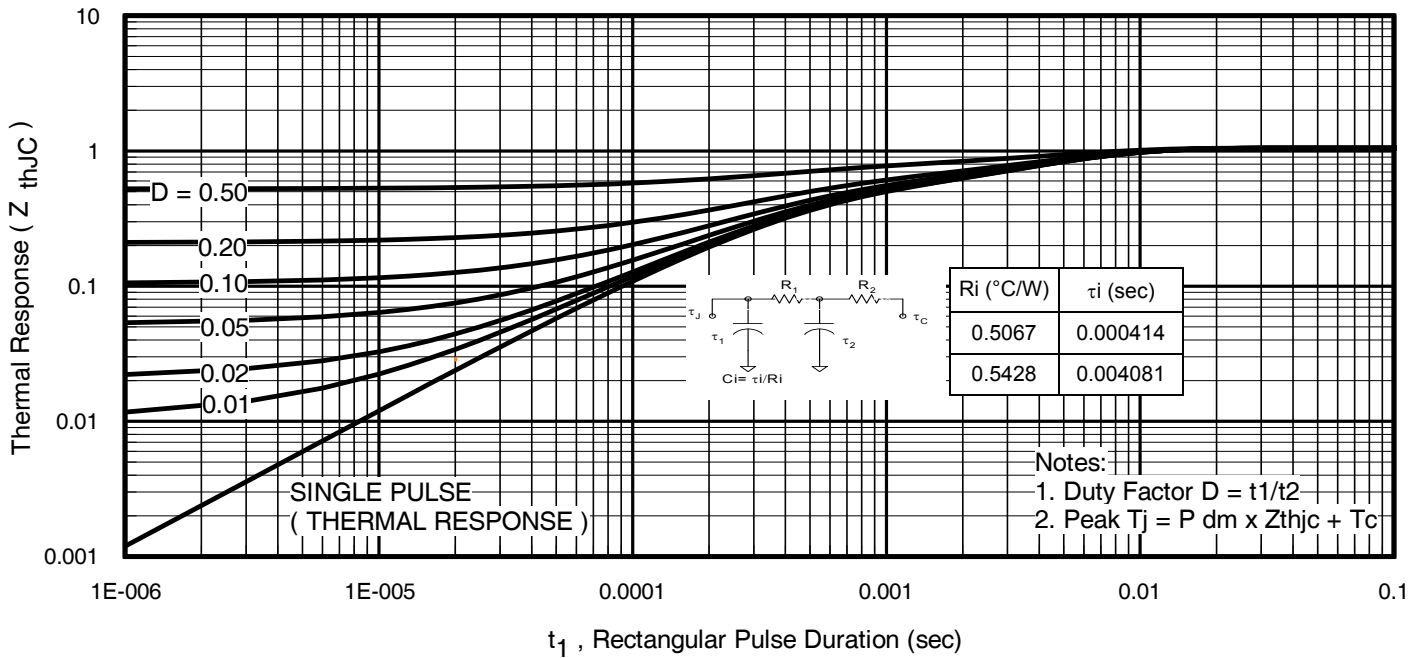
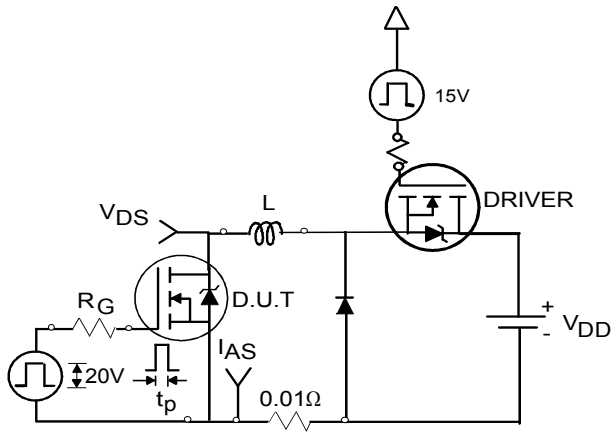

Fig 11. Maximum Effective Transient Thermal Impedance, Junction-to-Case
Fig 12a. Unclamped Inductive Test Circuit
- ① Repetitive rating; pulse width limited by max. junction temperature. (See fig. 11)
- ② Limited by T_{Jmax}, starting T_J = 25°C, L = 0.16mH, R_G = 25Ω, I_{AS} = 42A, V_{GS} = 10V. Part not recommended for use above this value.
- ③ Pulse width ≤ 1.0ms; duty cycle ≤ 2%.
- ④ C_{oss eff.} is a fixed capacitance that gives the same charging time as C_{oss} while V_{DS} is rising from 0 to 80% V_{DSS}
- ⑤ Limited by T_{Jmax}, see Fig.12a, 12b, 15, 16 for typical repetitive avalanche performance.
- ⑥ This value determined from sample failure population, starting T_J = 25°C, L = 0.16mH, R_G = 25Ω, I_{AS} = 42A, V_{GS} = 10V.
- ⑦ When mounted on 1" square PCB (FR-4 or G-10 Material). For recommended footprint and soldering techniques refer to application note #AN-994
- ⑧ R_θ is measured at T_J approximately 90°C.
3. Equation below based on circuit and waveforms shown in Figures 12a, 12b.